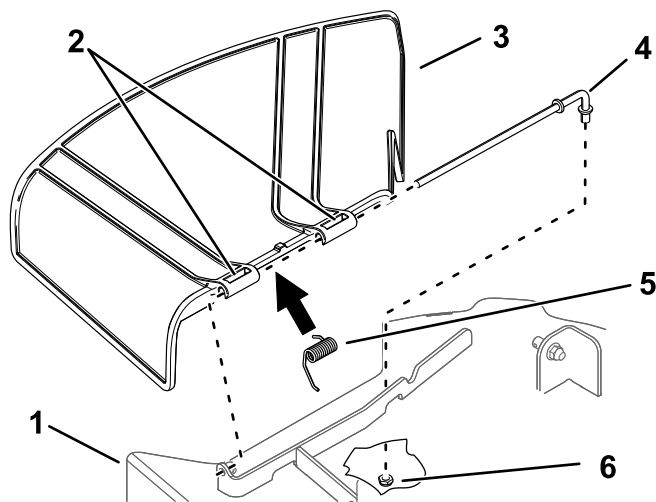

Figure 78
- Remove the nut (3/8 inch) from the rod under the mower (Figure 78).
- Slide the rod out of the deck bracket, spring, and grass deflector (Figure 78).
4. Install the new grass deflector (Figure 78).
7. Slide the rod through the second grass-deflector pivot (Figure 78).
9. Secure the rear end of the rod into the mower with a nut (3/8 inch) as shown in Figure 78.